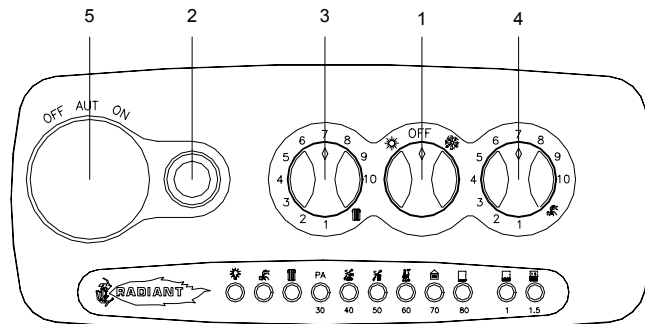

Fig. 1
- B. Move the bridge PT (see fig.1) from terminal TA to the free one next to it.
LEGEND (see fig. 1)
- make sure the cap on the auto air vent valve is slightly loose to allow air to escape from the system (see fig. 1);
- turn selector switch 1 to the WINTER ❄ position (see fig. 1), after a few seconds the pump will come into action;
- set selector switch **1** to either the ☼ summer or ❄ winter symbols (see fig.1 pag. 9); make sure that no. **6** light is ON (see fig. 2 pag. 9). The automatic ignition system will turn the burner on. It may be necessary to repeat the procedure a few times to purge air from the pipes. To repeat the ignition procedure press release button **2** (see fig.1 pag. 9) and then try the ignition procedure once again. If the boiler does not start, press the reset button 2 (see fig. 1 pag. 9). **IMPORTANT** should the boiler fail to ignite **wait 3 minutes** before pressing button again.
- turn selector switch **1** to the «off» position (see fig. 1 pag. 9), insert a gauge into the pressure point (see fig. 4 pag. 12; pos. no. 4), turn on the boiler and check the minimum and maximum calibration pressures of the modulator in accordance with those stated on the gas plate; (to check the maximum modulation pressure of the modulator, turn on a hot water tap and check that the maximum pressure is equal to that stated on the plate; to check the minimum, undo one wire from the modulator coil and check on the gauge that the minimum pressure is equal to that stated on the plate; if the maximum pressure is not the same as stated on the plate, calibrate the modulator again;